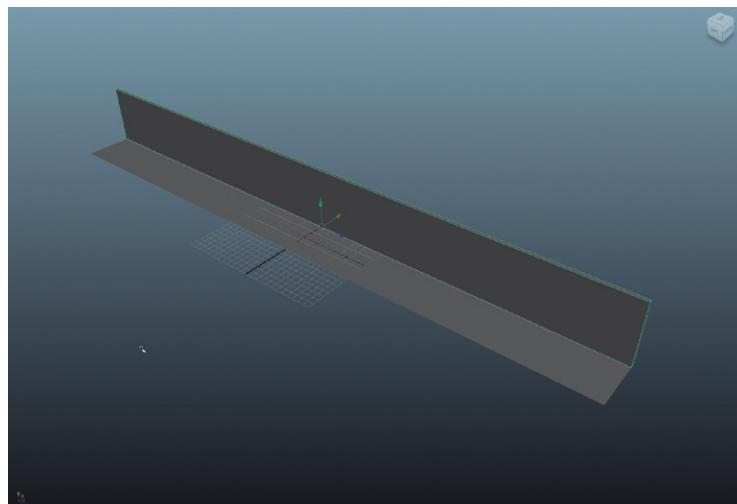

FIG 3.14 Results of resizing the wall with appropriately placed manipulator.
Step 19: Resize the wall to be 6 inches thick (0.5'), 10 feet tall, and 100 feet long. This can either be done via the Scale Tool or in the Channel Box editor by entering .5, 10, and 100 in the Scale X, Y, and Z input fields (Fig. 3.14).